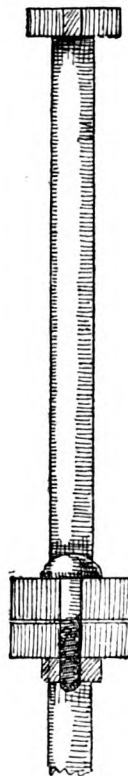

FIG. 5
**Regulating Louvre Boards for Drying Sheds.**—Figs. 1 to 4 show an opening provided with regulating louver boards suitable for a drying shed or similar premises. Frames with splayed sills, as shown, would be made and fixed. The louvres would next be fitted to lengths, and the edges splayed and fitted together, as shown at Fig. 2. From 30° to 45° will be a suitable angle for the splayed edges. At each end they would be connected to the frame by centre pins and plates, the centre pins being fixed to the jambs of the frame, and the plates to the ends of the boards, as shown at Fig. 5. By this means each board can be placed in position. To open and close and regulate the boards, a fillet 1½ in. by 2 in. should be prepared, and hinged to the upper inside edge of each board at one end, as indicated at A (Fig. 3). By pushing the strip up or pulling it down, the louver boards can be opened or closed as required. To keep the fillet in position, one of the several forms of stays can be made to suit the purpose: or should the
fender by bolts and nuts, as shown in Fig. 5. The second is perhaps the easier method. A half-round brass top may be fixed on the upper rail of the new portion if desired, and the wirework should be made in the required length, and fastened to the round bars with wire ties.